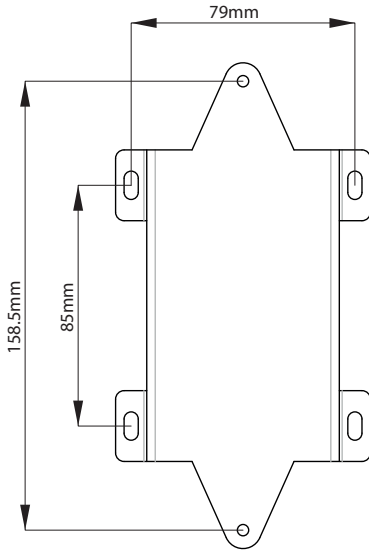

Figure 4. Mounting Bracket
2. Fit the mounting bracket using appropriate fixings for the surface, ensure that the bracket is secure and free from movement. Refer to Figure 4